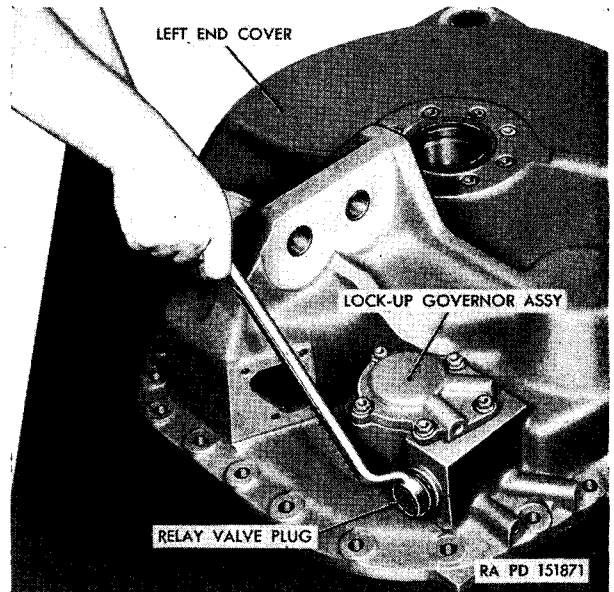

Figure 132. Removing or installing relay valve plug.
- (2) Lift the left end cover assembly from the output planet carrier and again place the end cover, split line down, on the assembly table.
- (3) Using a 1-inch wrench, remove the plug from the lock-up governor-relay valve (fig. 132). Remove the copper gasket, spring, retainer, and relay valve.